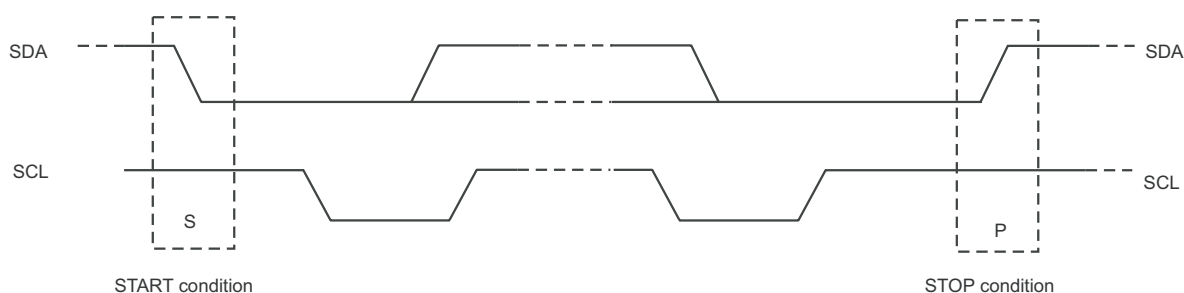

Figure 5. Definition of Start and Stop Condition
Both data and clock lines remain HIGH when the bus is not busy. A HIGH-to-LOW transition of the data line, while the clock is HIGH is defined as the START condition (S). A LOW-to-HIGH transition of the data line while the clock is HIGH is defined as the STOP condition (P), see Figure 5.